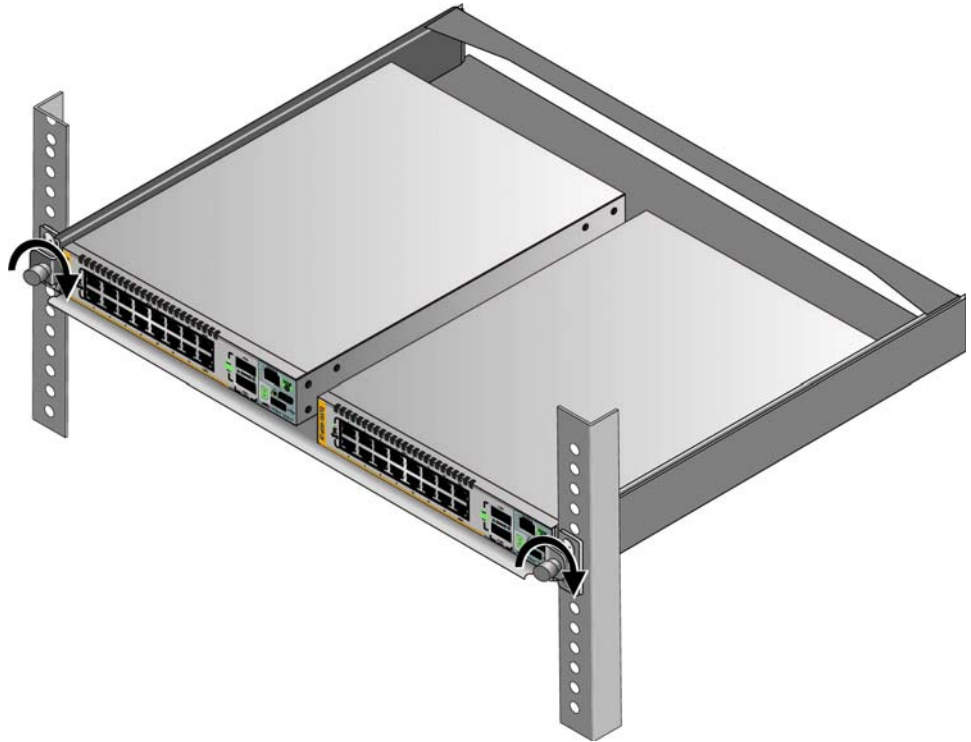

Figure 35. Tightening the Two Thumbscrews on the AT-RKMT-J15 Bracket
11. Tighten the two thumbscrews to secure the tray to the bracket. Refer to Figure 35 on page 73.